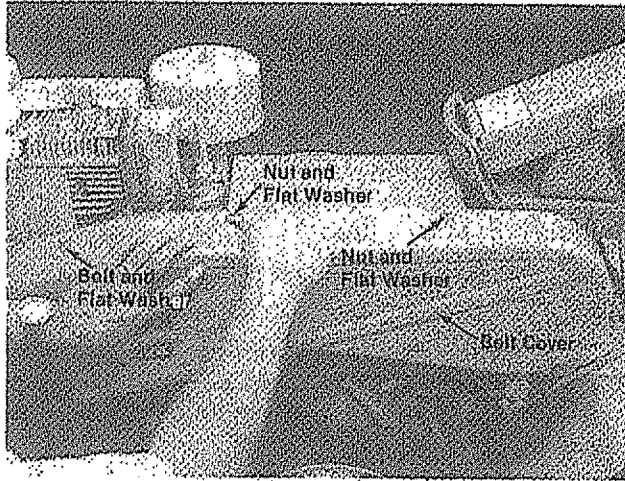

FIGURE 31.
1. Remove belt cover, remove two bolts, two nuts and four flat washers. See figure 31.